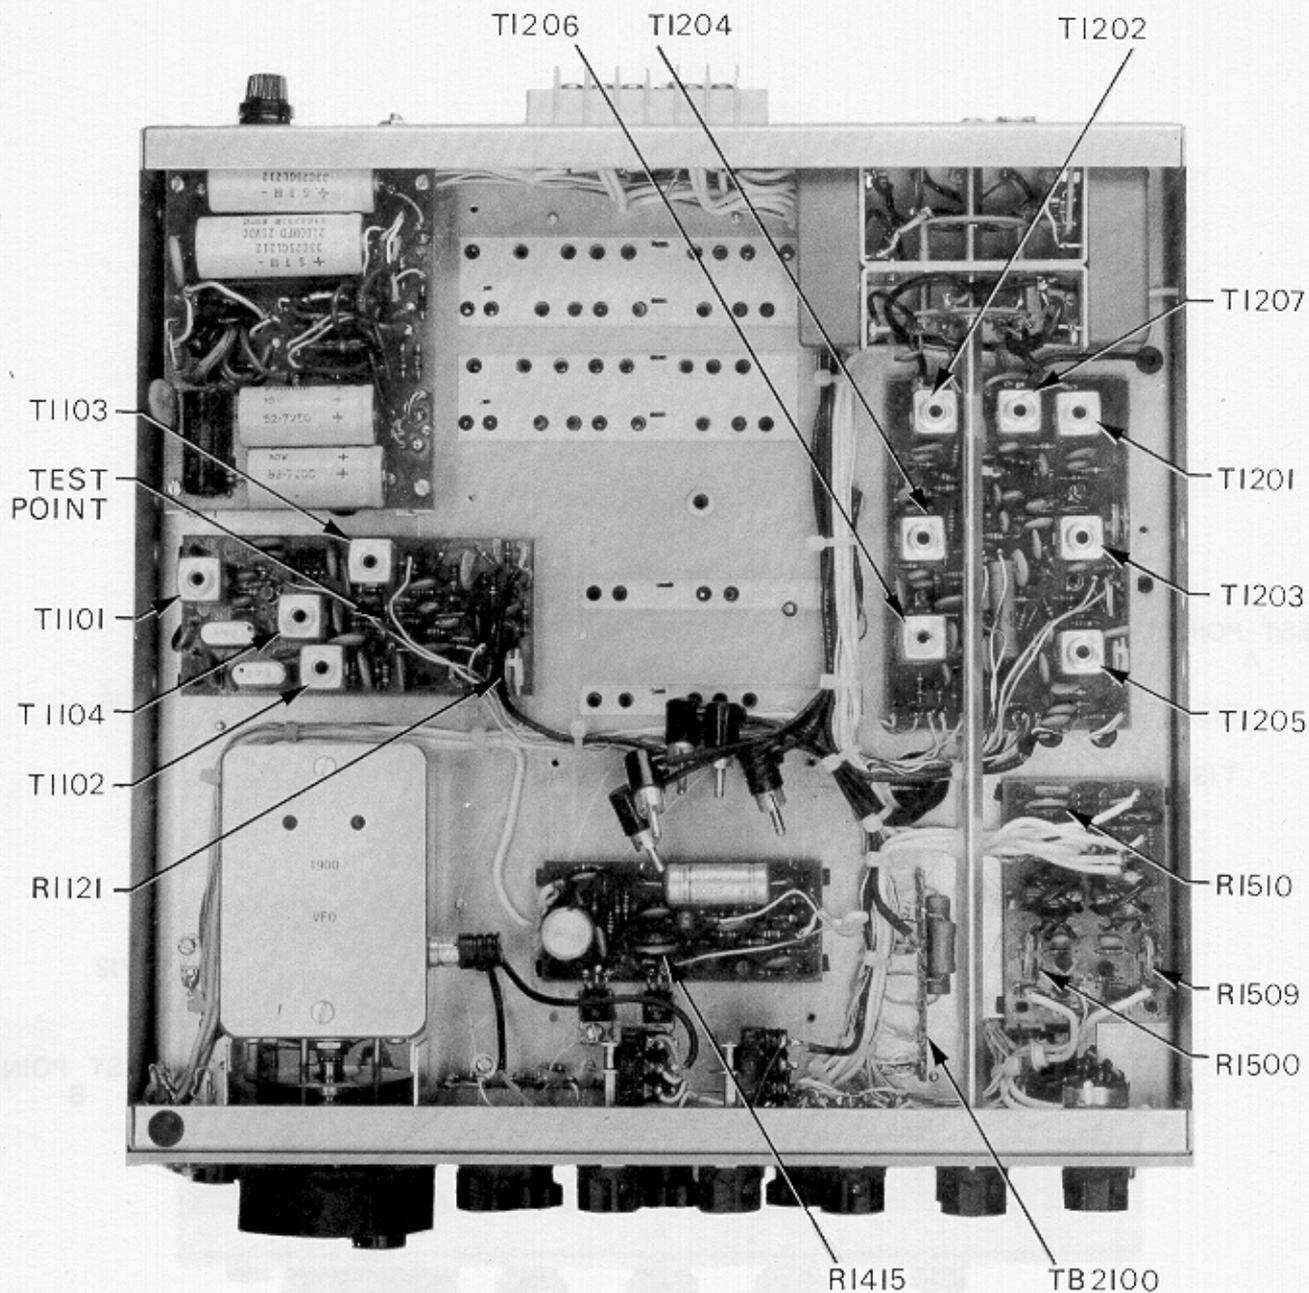

Figure 5-6. Bottom View with Covers Removed
- a. Refer to figure 5-6. Connect the DC probe of the VTVM to the test point on the IF-Noise Blanker board. Decrease signal generator level until a voltage deflection is noted on the VTVM. This voltage deflection will be in the negative direction.
- c. Refer to figure 5-6. Adjust the potentiometer R1510 for an audio zero beat.
- d. Refer to figure 5-6. Facing the variable resistor R1415 from the right side of the receiver, rotate the adjusting ring full clockwise; then rotate the adjusting ring counterclockwise until crossover distortion just disappears on the oscilloscope.